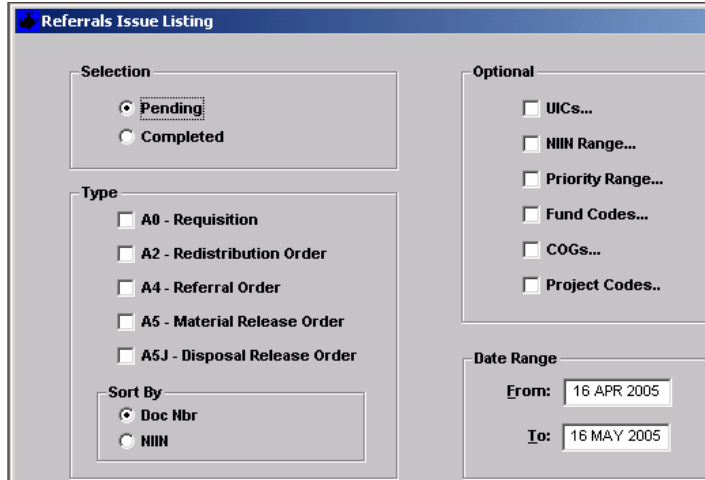

Figure 6.37
6.9.1 The *Referrals Issue Listing* window (Figure 6.37) allows the user to create a listing of pending or completed referrals.